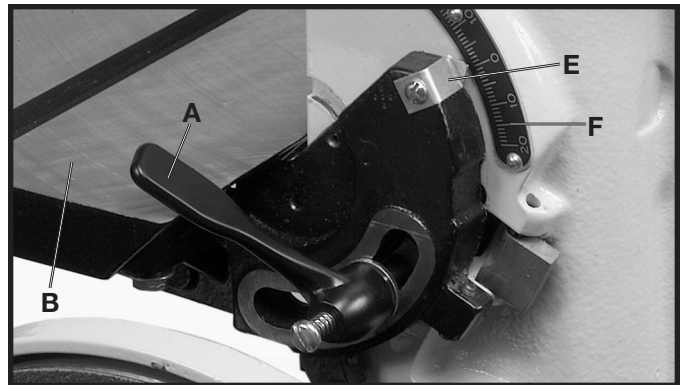
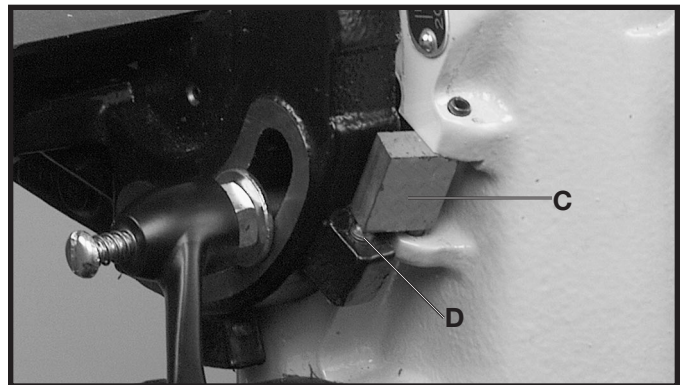

Fig. 15
Fig. 16
To tilt the table, loosen the table tilting handle (A) Fig. 15, move the table to the desired angle, and tighten the table tilting handle. The table tilting handle can be repositioned by pulling out the handle and repositioning it on the hex nut located underneath the handle. Positive table stops are provided at 90° and 45°. To adjust the stops, proceed as follows:
1. Loosen the table locking handle (A) Fig. 15, and lift the table up to approximately 10 degrees.
2. Flip out stop bracket (C) Fig. 16, and lower the table until the adjustable screw (D) contacts stop bracket (C).
4. Turn the adjusting screw (D) Fig. 16 until the table is at 90° to the platen and adjust the pointer (E) Fig. 15, to the 0° mark on the angle-of-tilt scale (F) Fig. 15.